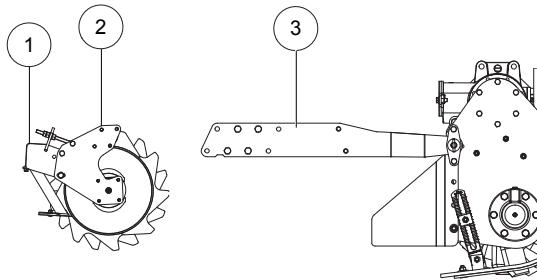

FIG. 8
- Impede the rotation of the scraper holder bar (1, "Fig. 8").
- Place the roller on the ground with the support plates (2, "Fig. 8") set in the assembly direction.
- Sustain the roller holder bar (3, Fig. 8) with proper sup-